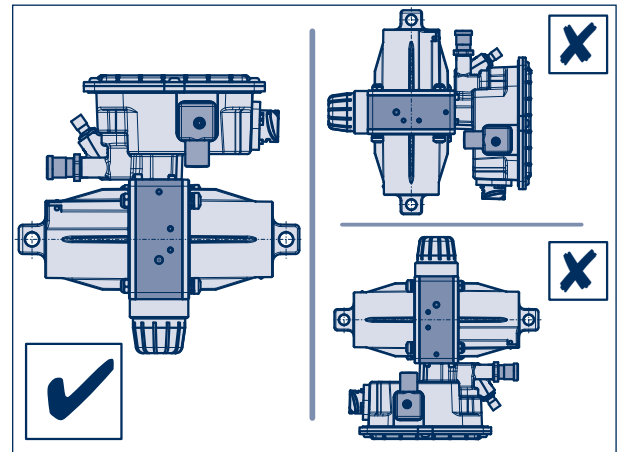

Figure 12
- [5] Insert the AirSave Control Box into the bore holes on the frame with the fixing screws and the spacer. Make sure that the control box is correctly aligned, see Figure 12.